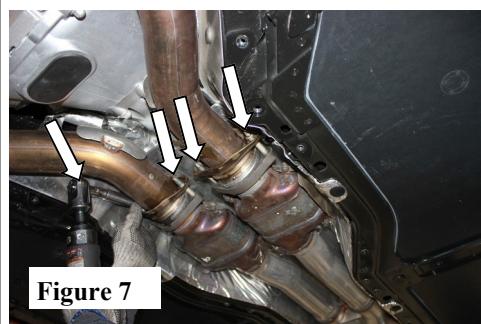

Figure 7
11. Loosen and remove flange bolts at front of mid-pipe. Keep hardware for reinstallation later. (See Fig. 7)